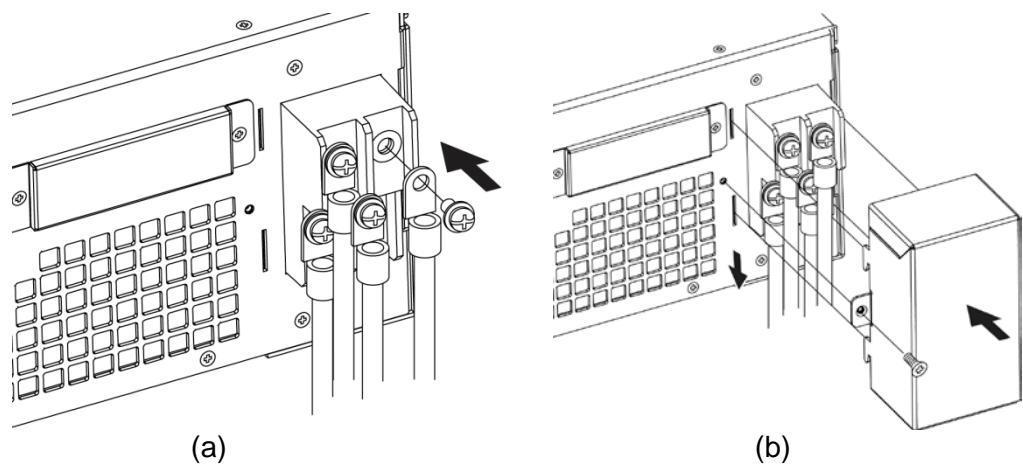
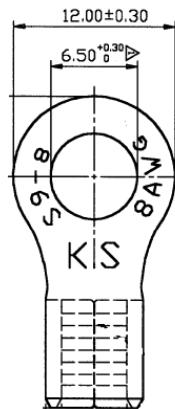

Figure 2-3
Figure 2-5
- (1) The input connector board is located on the right side of the rear panel.
- (2) The power cable must be rated for at least 85°C.
- (3) The power cable must be within 6AWG-8AWG. (Note: 10AWG-12AWG is required for the 62020H-150S Model.)
- (4) See Figure 2-3 (a), (b) to connect the cables to the 62000H. See Figure 2-5 to connect the cables to the 62020H-150S. Then perform the following steps:
3. Figure 2-5 shows the suggested specification of an O type terminal.